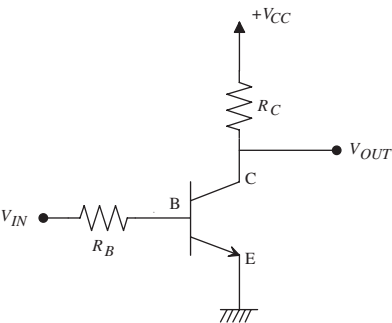

FIGURE 1.3 An inverter.
**Operation of the Transistor as an Inverter** Figure 1.3 shows how to use the transistor as an inverter. When  $V_{IN} = 0$ , the transistor is in cutoff (OFF), and the collector-emitter switch is open. This means that no current flows from  $+V_{CC}$  to ground.  $V_{OUT}$  is equal to  $+V_{CC}$ . Thus,  $V_{OUT}$  is high.
Therefore, for  $V_{IN} = \text{LOW}$ ,  $V_{OUT} = \text{HIGH}$ , and for  $V_{IN} = \text{HIGH}$ ,  $V_{OUT} = \text{LOW}$ . Hence, the *npn* transistor in Figure 1.3 acts as an inverter.